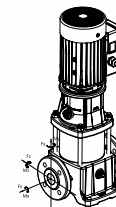

Fig. 6 Nozzle forces and moments
6.7 Nozzle Loads: If not all loads reach the maximum permissible value stated in the forces and moments tables included here with fig. 6, one of these values may exceed the normal limit. Contact Shakti for further information.